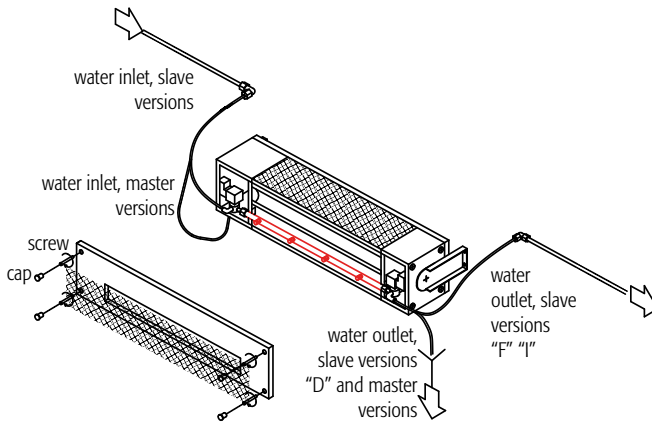

Fig. 24
14. if operation is correct, replace the front panel and all the caps (Fig. 24);